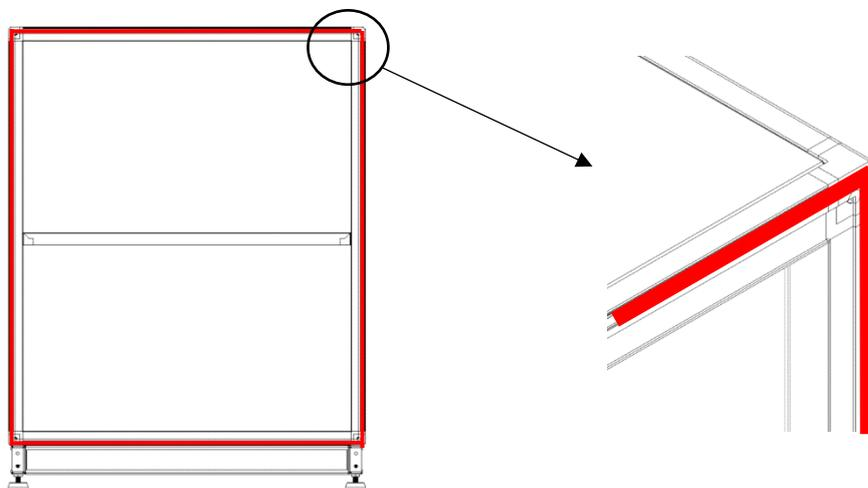

Fig. 82
1. Apply sealing strip to the surface where the module will be connected with the unit fan module (Fig. 82)